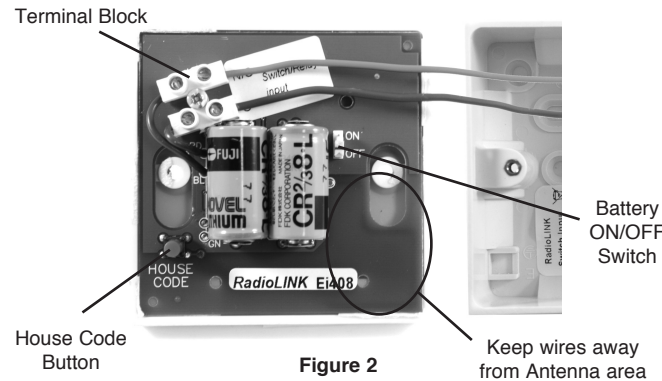

Figure 2
3. Switch on the built-in battery by sliding the yellow battery switch to the "on" position (see Figure 2).
4. Press and hold the House Code button (shown in Figure 2) until the red light on the front plate of the Ei408 illuminates solidly. As soon as the light illuminates, release the House Code button. The red light should start to flash slowly (this indicates that the Ei408 is sending out its own unique House Code signal).
However, there is no guarantee that interference will not occur in a particular installation. Interference from the Smoke Alarm system can be identified by turning the whole system off. To turn off the Ei408 remove the front plate and slide the yellow battery switch to the "off" position (see Figure 2). Refer to the instructions supplied with the other products used for information on these. The user is encouraged to eliminate the interference by one or more of the following measures:
If your Ei408 fails to work after you have read this leaflet, contact Customer Assistance at the nearest address given at the end of this leaflet. If it needs to be returned for repair or replacement put it in a padded box with the battery disconnected. Slide switch to "off" position (see Figure 2). Send it to "Customer Assistance and Information" at the nearest address given on the Ei408 or in this leaflet. State the nature of the fault, where the unit was purchased and the date of purchase.